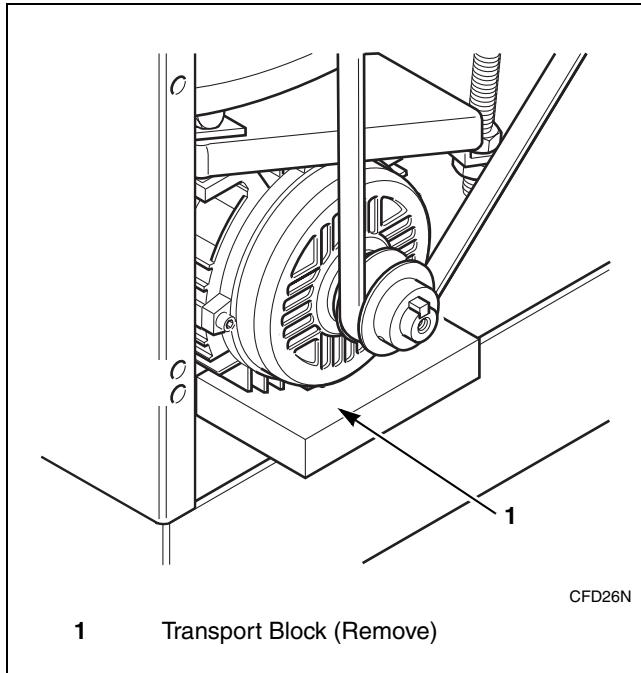

Figure 4
3. At rear of machine, lift at bottom of motor and remove transport block. Refer to *Figure 4*.